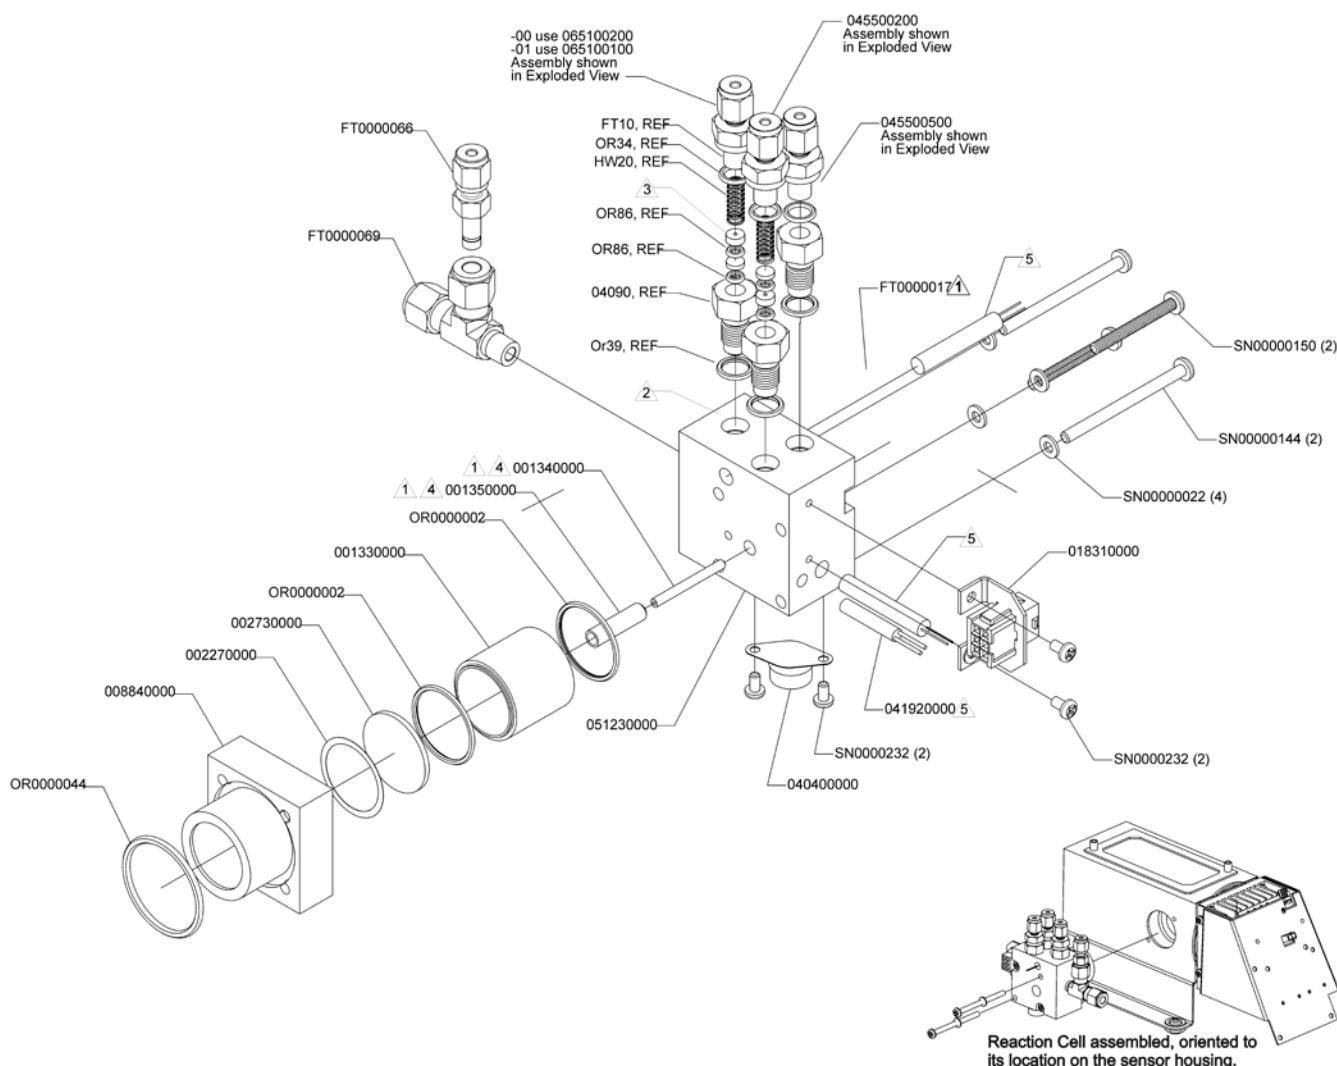
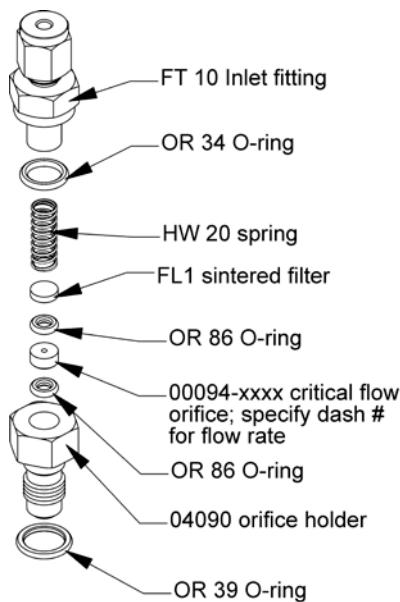

Figure 6-4: Reaction Cell Assembly
Figure 6-5: Critical Flow Orifice Assembly
1. Turn off the instrument power and vacuum pump. Refer to Figure 6-4 for the following procedure.
3. Remove four screws holding the reaction cell to the PMT housing and lift the cell and manifold out as shown in the inset of Figure 6-4.
There are several critical flow orifices installed in the T200H/M, Figure 6-4 shows one of the two most important orifice assemblies, located on the reaction cell. Refer to Section 8.3.3 for a detailed description on functionality and locations. Despite the fact that these flow restrictors are protected by sintered stainless steel filters, they can, on occasion, clog up, particularly if the instrument is operated without sample filter or in an environment with very fine, sub-micron particle-size dust.
1. Turn off power to the instrument and vacuum pump. Remove the analyzer cover and locate the reaction cell (Figure 3-7 for location in chassis, and Figure 6-4 for exploded view of assembly).
3. For orifices on the reaction cell (Figure 6-4): Unscrew the orifice holder with a 9/16" wrench. This part holds all components of the critical flow assembly as shown in Figure 6-5. Appendix B contains a list of spare part numbers.
4. For orifices in the vacuum manifold: the assembly is similar to the one shown in Figure 6-5, but without the orifice holder, part number 04090, and bottom O-ring OR34 and with an NPT fitting in place of the FT 10 fitting. After taking off the connecting tube, unscrew the NPT fitting.
7. Re-assemble the flow control assembly with new the parts (see Appendix B for part number or replacement kit) as shown in Figure 6-5 and re-connect them to the reaction cell manifold or the vacuum manifold.